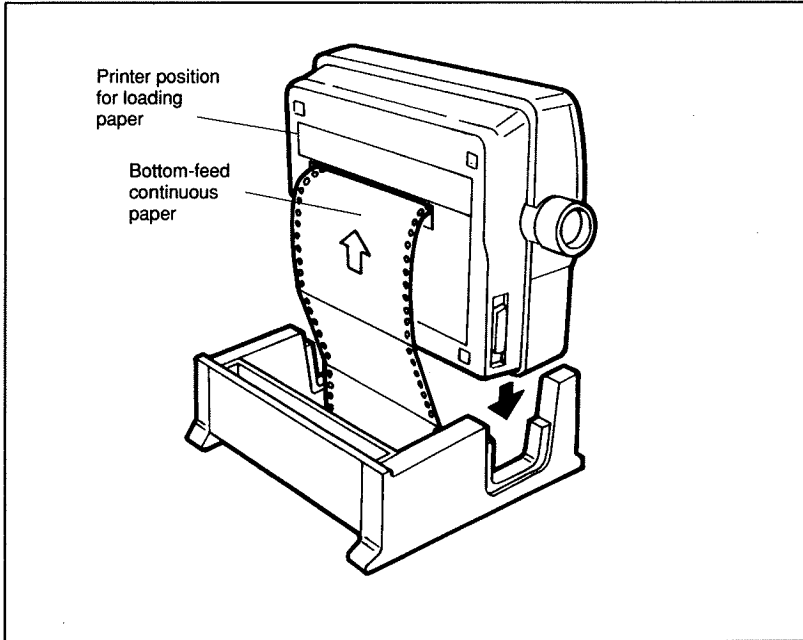

Figure 3-13. Feeding paper into the bottom of the printer.
5. Insert the forms or labels through the slot in the bottom of the printer. See Figure 3-13. Pull the forms or labels through so that 4 or 5 inches extend out of the printer. Make sure the paper covers the paper out sensor, which is about 2 inches from the left side of the printer.